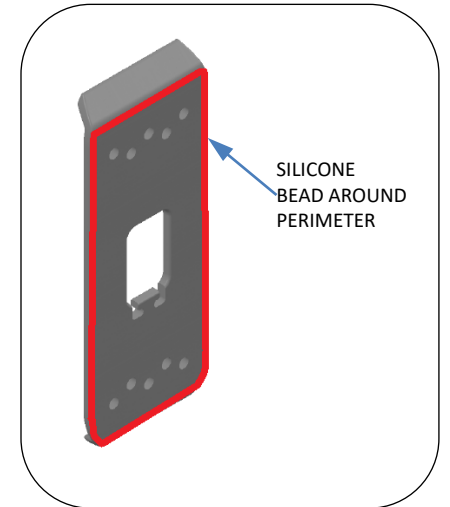

Fig. 3 - Wall mount silicone location
6. Apply bead of silicone to back of bracket plate as shown in Fig. 3 to ensure the plate seals to the wall. Apply a bead of silicone on the wall around the wiring box.